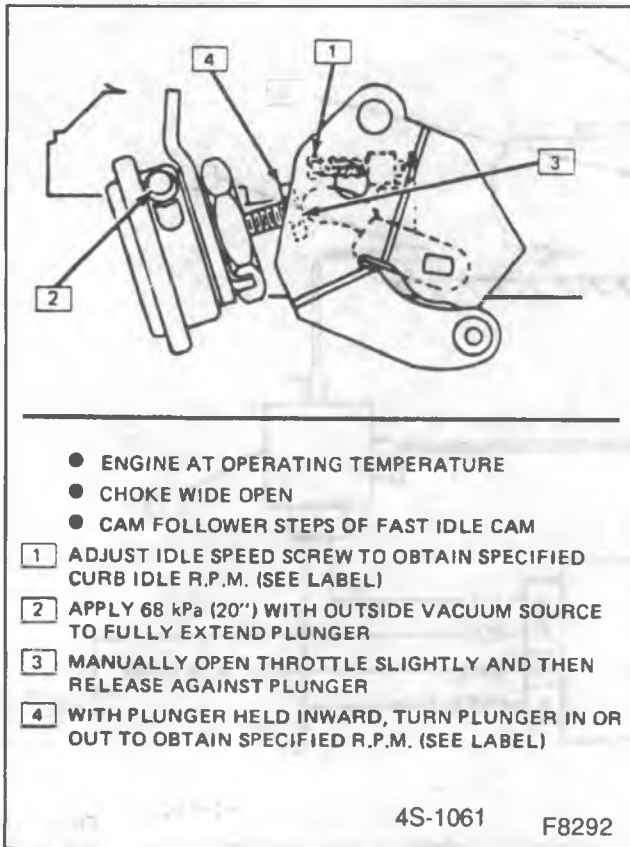

Figure 28—Throttle Lever Actuator Adjustment
- g. If the engine rpm noted in Step 3 is not within the specified TRC range, the TRC actuator must be adjusted. Refer to figure 28 and Vehicle Emission Control Information label for adjustment of the throttle lever actuator.
Refer to figure 28 and Vehicle Emission Control Information label for adjustment of the throttle kicker.